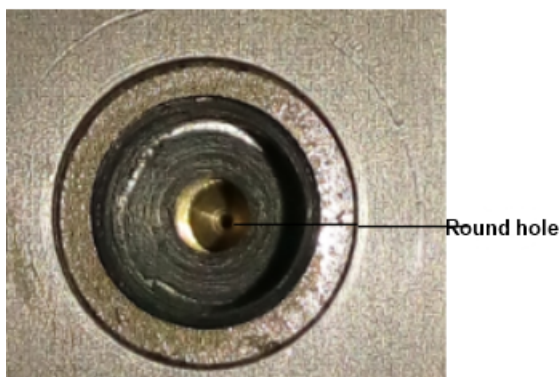

Figure 2
- ① Slowly through the round hole back and forth a few times by "rod" which is equipped with the instrument, and then change rubber pipette bulb to blow downward, repeated the operation can be done for several times. To point the round hole to the light and see if there are clear round holes (as shown in figure 2).